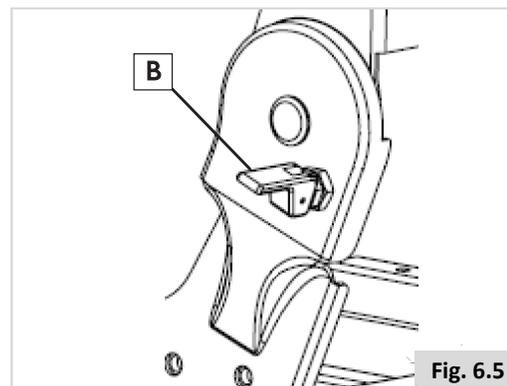

Fig. 6.5
- Locking Pin Lever (B) should be engaged, Figure 6.5.